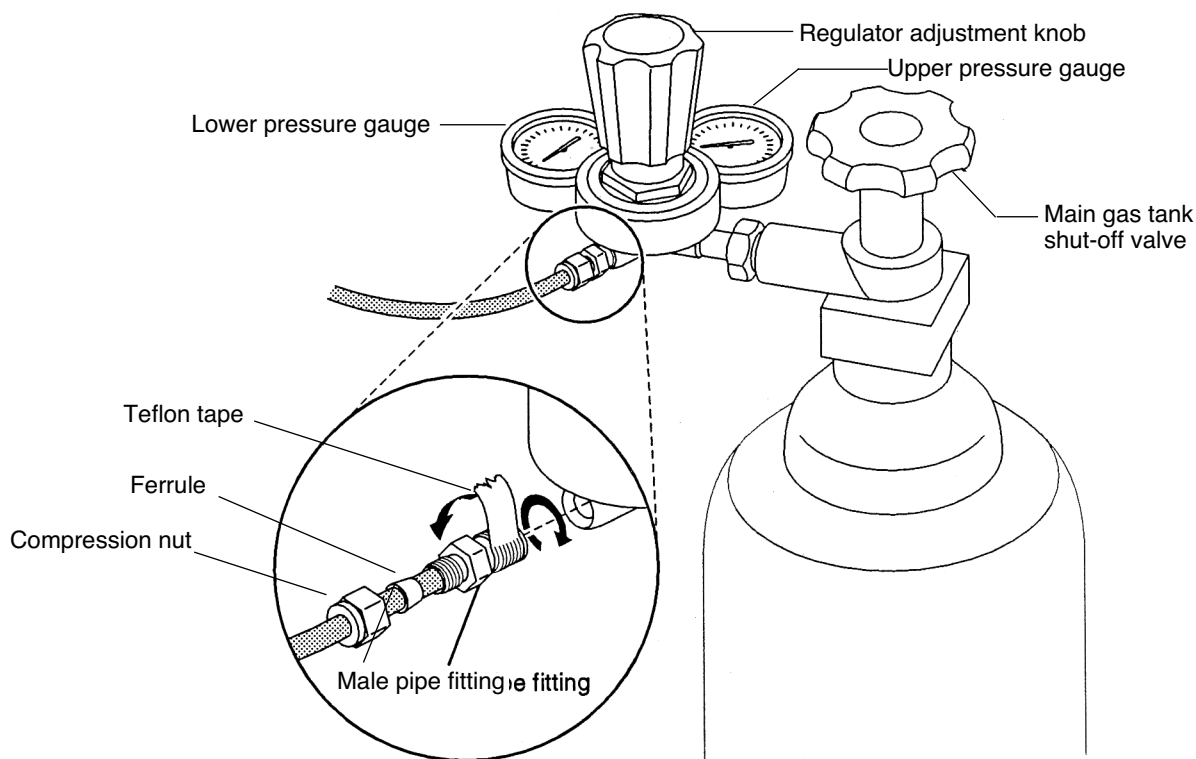

Figure 8. Attaching Parflex tubing to the gas regulator
1. First, wrap a short piece of 1/4 in. Teflon tape **counter-clockwise** around the threads of the male pipe fitting (MPF). The tape should not extend beyond the outside lip of the pipe (Figure 8).
3. Slide a brass ferrule and a compression nut on to the end of the tubing (Figure 8). Insert the tubing into the MPF, push the ferrule into the